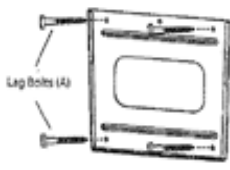

Figure 1B
4. Insert a Concrete Anchor (B) into each hole. A hammer can be used to lightly tap each anchor into place if necessary.
5. Place the wall bracket against the wall and secure it using four (4) Lag Bolts (A) from the hardware kit (Fig. 1B).